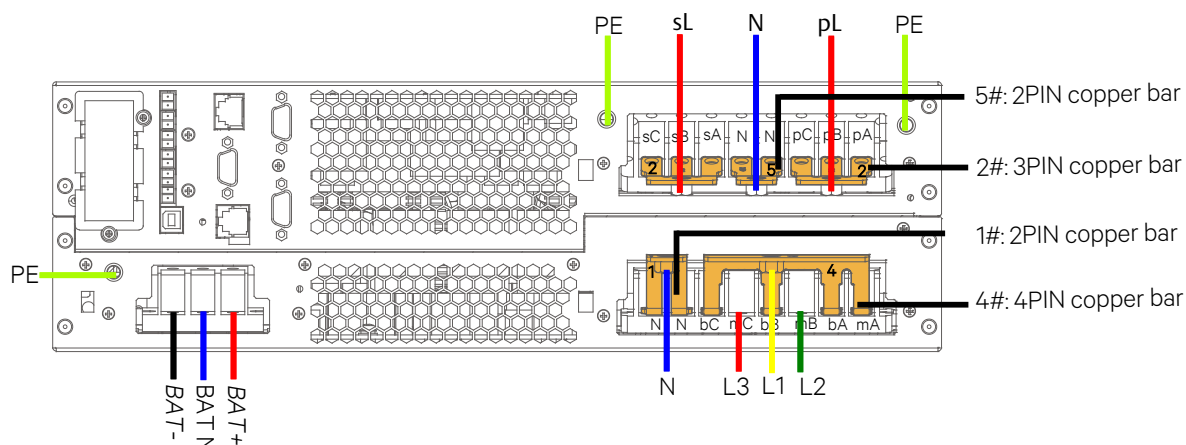

Figure 2-25 Wiring diagram (3-in 1-out, common input configuration)
3. Connect the mains input phase-A live wire (L1) to the shorting copper bar 4 (bA, bB, bC, mA), connect the input N line to the shorting copper bar 1 (N), and connect the input phase-B and phase-C live wires (L2, L3) to the input terminals (mB, mC), then connect the input PE line to the PE terminal.
4. Connect the standard output live wire (sL) to the shorting copper bar 2 (sA, sB and sC). Connect the programmable output live wire (pL) to the shorting copper bar 2 (pA, pB and pC). Connect the output N line and output PE line respectively to the output terminals N and PE. As shown in Figure 2-25.
5. As shown in Figure 2-25, lead the battery positive cable, battery N cable and battery negative cable through the cable hole of the junction box, then respectively connect them to BAT+, BAT N, BAT- and PE, then fasten the fixing screws.